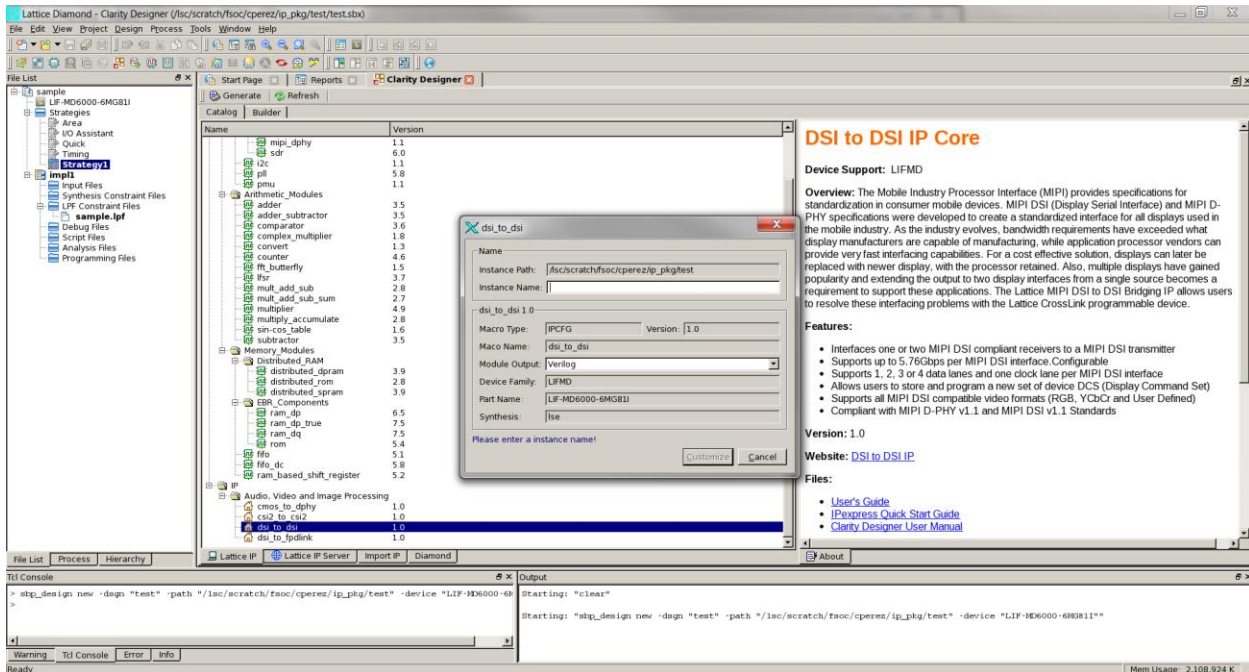

Figure 4.3. Configuring DSI to DSI Bridge IP in Clarity Designer
1. Double-click **dsi\_to\_dsi** in the IP list of the Catalog view. The **dsi\_to\_dsi** dialog box is displayed as shown in Figure 4.3.